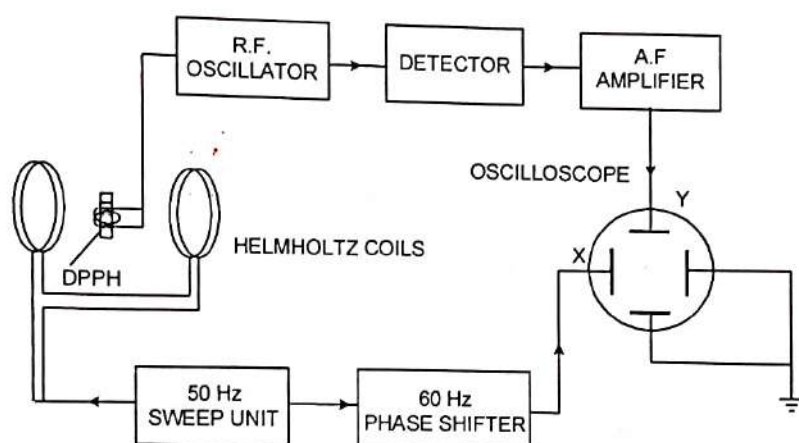

Figure 1. Block Diagram of the ESR Set up
1. **Basic Circuit:** The first stage of the ESR circuit consists of a critically adjusted (marginal) radio frequency oscillator having a frequency range of approximately 12–16MHz. A marginal oscillator is required here so that the slightest increase in its load decreases the amplitude of oscillation to an appreciable extent. The sample is kept inside the tank coil of Helmholtz coils. At resonance, i.e. when the frequency of oscillation equal to the Larmor's frequency of the sample, the oscillator amplitude registers a dip due to the absorption of power by the sample. This obviously, occurs periodically - four times in each complete cycle of the Helmholtz coils supply voltage. The result is in amplitude modulated carrier (Fig. 4A) which is then detected using a diode detector and amplified by a chain of three low noise, high gain audio - frequency amplifiers of excellent stability. A sensitivity control is provided in the amplifier to suit the input requirement of any oscilloscope. A block diagram of the ESR Spectrometer is given in Fig. 1